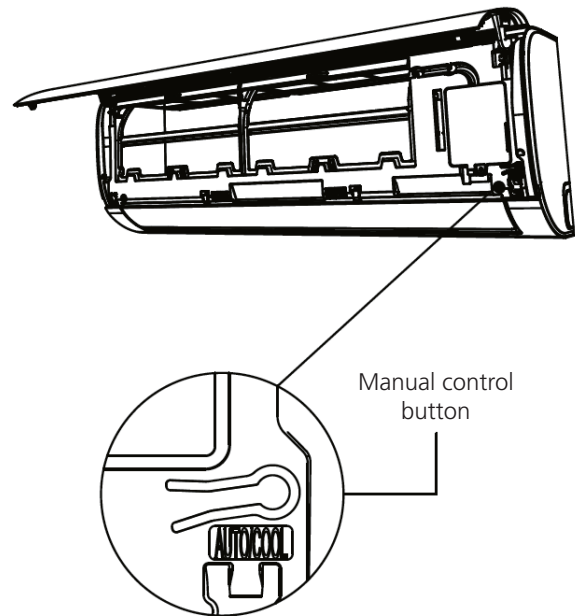

Fig. 9.1
2. The **MANUAL CONTROL** button is located on the right-hand side of the display box. Press it two times to select the COOL function. See **Fig. 9.1**